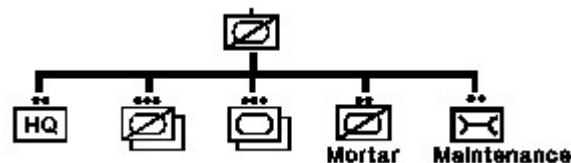

Figure 1-4. Armored cavalry troop organization.
The armored cavalry troop consists of a headquarters, two tank platoons, two scout platoons, and mortar and maintenance sections. The headquarters section is equipped with one main battle tank, one command post (CP) carrier, one APC, one cargo truck, and two utility trucks. The scout platoons consist of six M3 cavalry fighting vehicles (CFV). Equipment in the mortar and maintenance sections includes two 107-mm mortars mounted in self-propelled carriers, one APC, one heavy recovery vehicle, etc. (See Figure 1-4.)